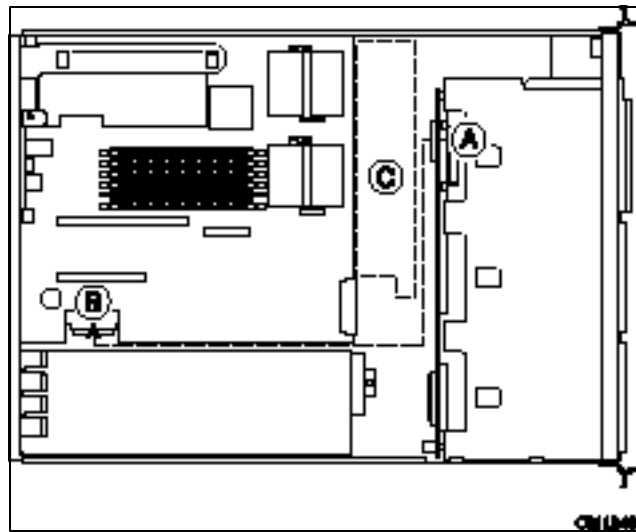

Figure 25. Cable Routing: Tape Drive to On-board SCSI Controller
4. Connect the cable to the tape drive (see Figure 25, A, on page 39) and carefully route the folded and taped section on the chassis floor between the fan assembly (C) and the tape drive (A).
5. Connect the cable to the on-board SCSI controller at connector (B).